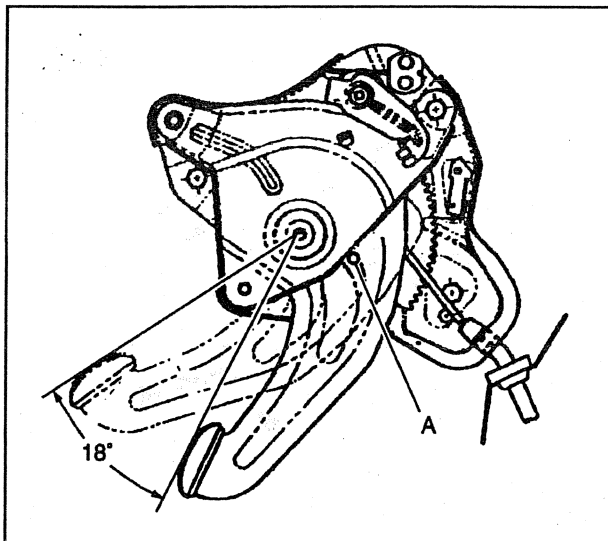

Figure 4—Parking Brake Adjustment Setting
- Insert a 3 mm (.125 in.) pin into locating hole (A) in the pedal assembly (figure 4). Push the pedal downward until the pin contacts the parking brake outer flange.
Adjust (Figures 4, 5 and 6)
- Insert a 3 mm (.125 in.) pin into locating hole (A) in the pedal assembly (figure 4). Push the pedal down until the pin contacts the parking brake outer flange.